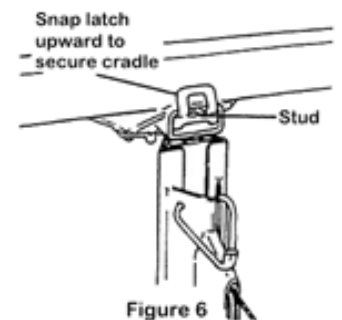

Figure 3
B. Raise the brake arm all the way up. Grasp the winch post, and grip the brake arm firmly with your thumb. (Figure 3)